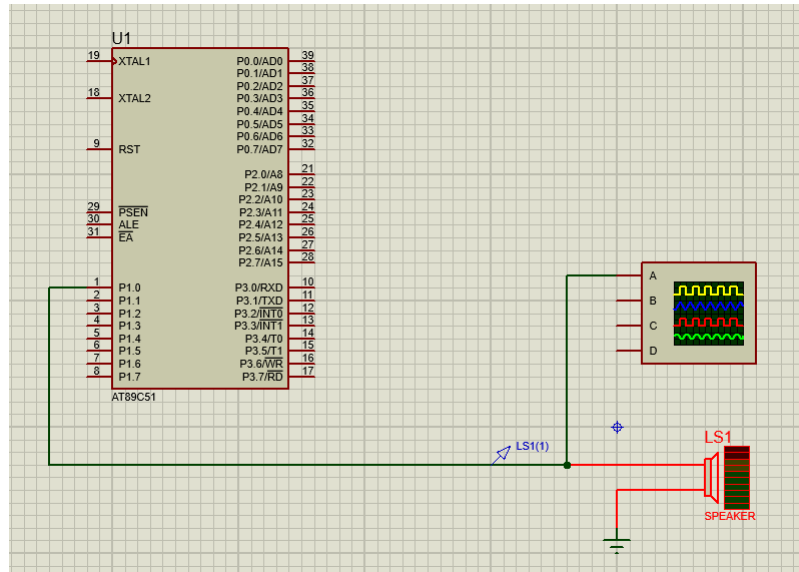

Figure 1: An example setup for Lab 2 that includes both speaker and oscilloscope for this part. As seen, we are generating square waveforms with the P1.0 port.
- You must place the oscilloscope and speaker in your Proteus setup. You need to connect the port of 8051 that you generate waveform to both the oscilloscope and speaker. To implement how to use speakers in Proteus, refer to this video [[1]. An example setup is shown in Figure 1. If you are not observing the oscilloscope, please click 'Debug' and choose 'Reset Debug Popup Windows' before starting your simulation.